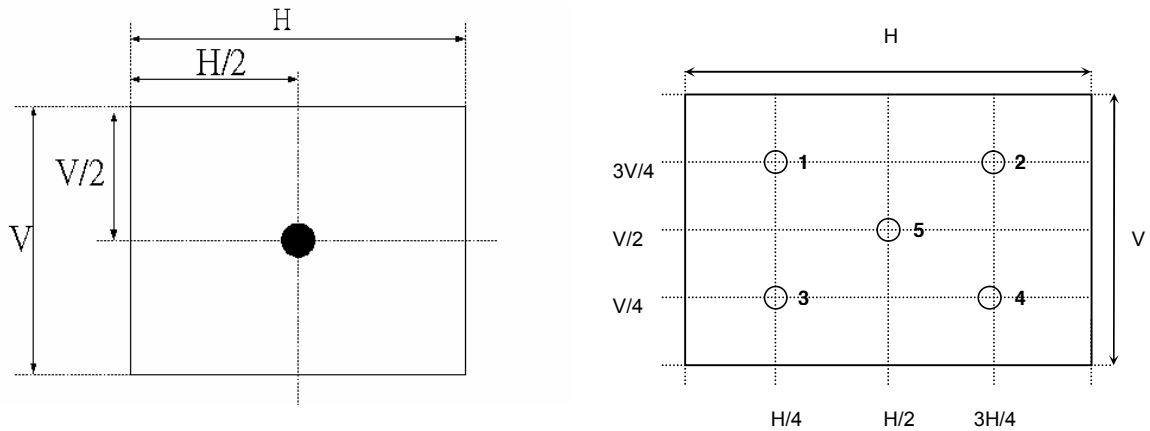

Fig.4-2 Optical measurement point
2. Surface luminance is luminance value at point 1 across the LCD surface 50cm from the surface with all pixels displaying white. From more information see Fig. 4-2. When $V_{DDB} = 24V$, $I_{DDB} = 7.3A$. $L_{WH} = L_{on1}$, Where L_{on1} is the luminance with all pixels displaying white at center 1 location.